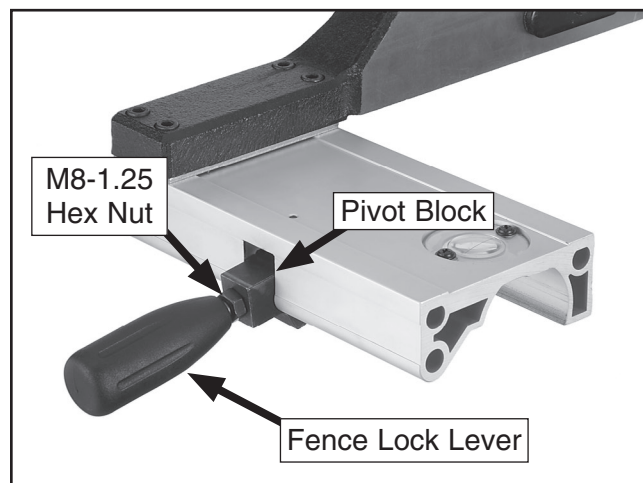

Figure 13. Handle installed on fence assembly.
15. Install an M8-1.25 hex nut on the fence lock lever, then thread the handle into the fence assembly (**Figure 13**). Tighten the hex nut against the fence pivot block to secure the handle.